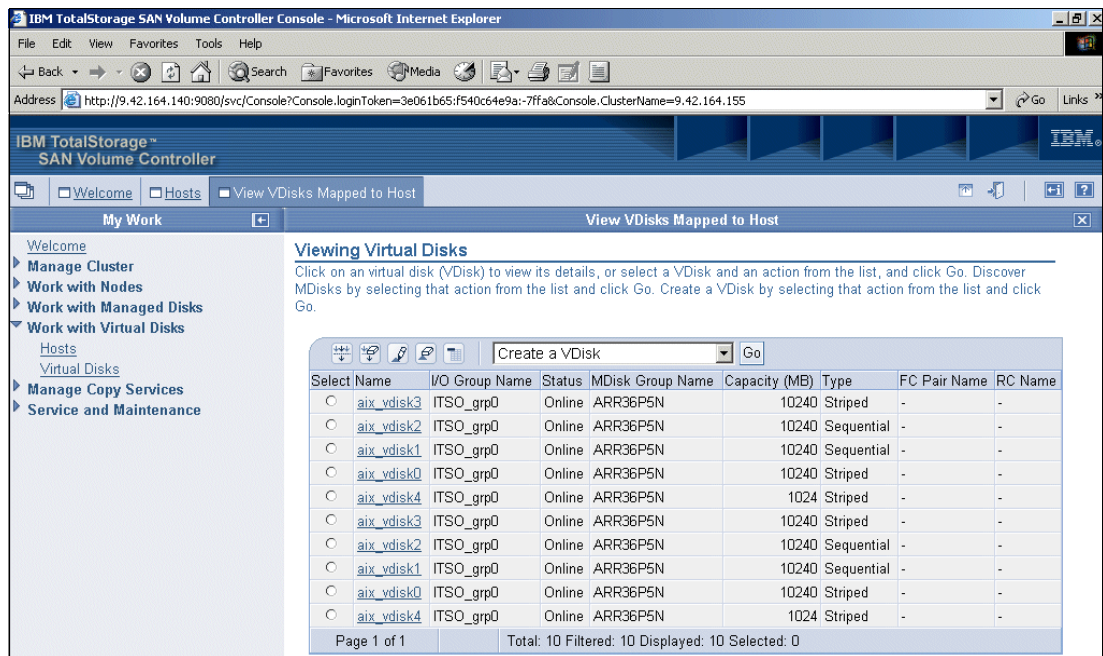

Figure 9-58 Showing the vDisk assignment for a host
2. You see a subset (specific to the host you chose in the previous step) of the Viewing Virtual Disks panel (Figure 9-58). You see that the vDisks, when accessed in this manner, are listed twice (once for each defined host port).